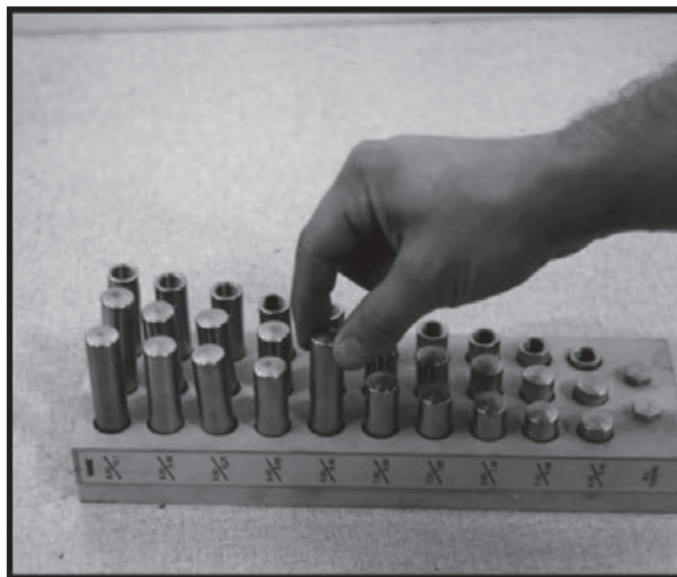

Figure 3-12.
4. Select extension leg set required. Refer to the I.D. range chart decal provided on the leg extension box, or on page in this manual (Figure 3-12).